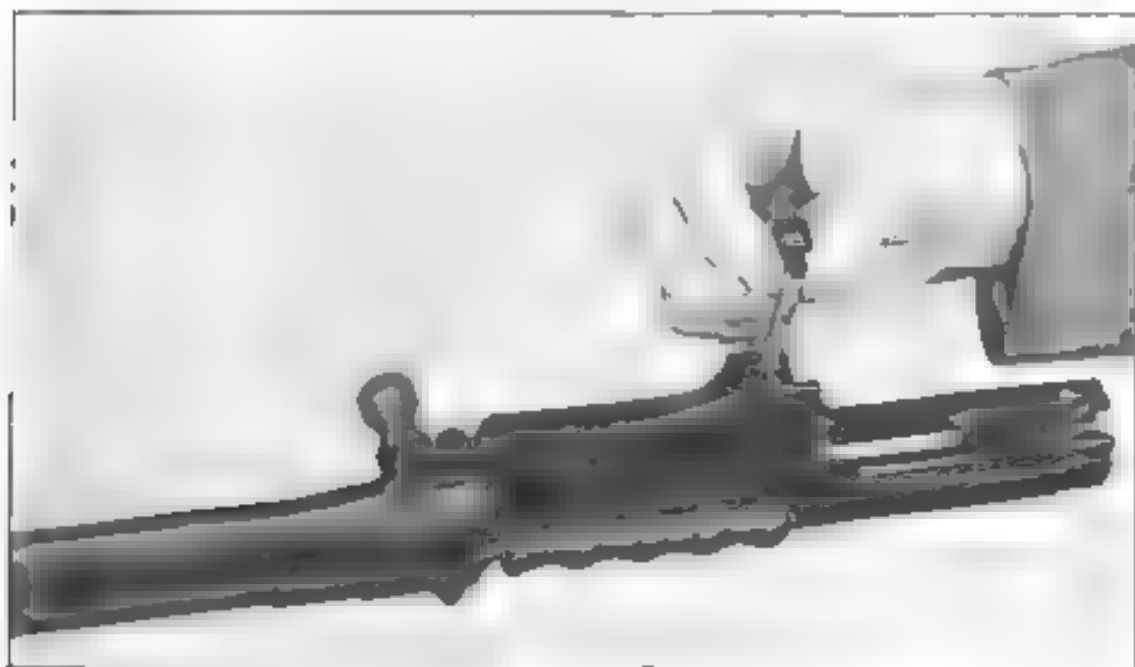

Fig. 85
b) **Holding open device.** — Grasp the holding open device and remove from its housing (fig. 85)